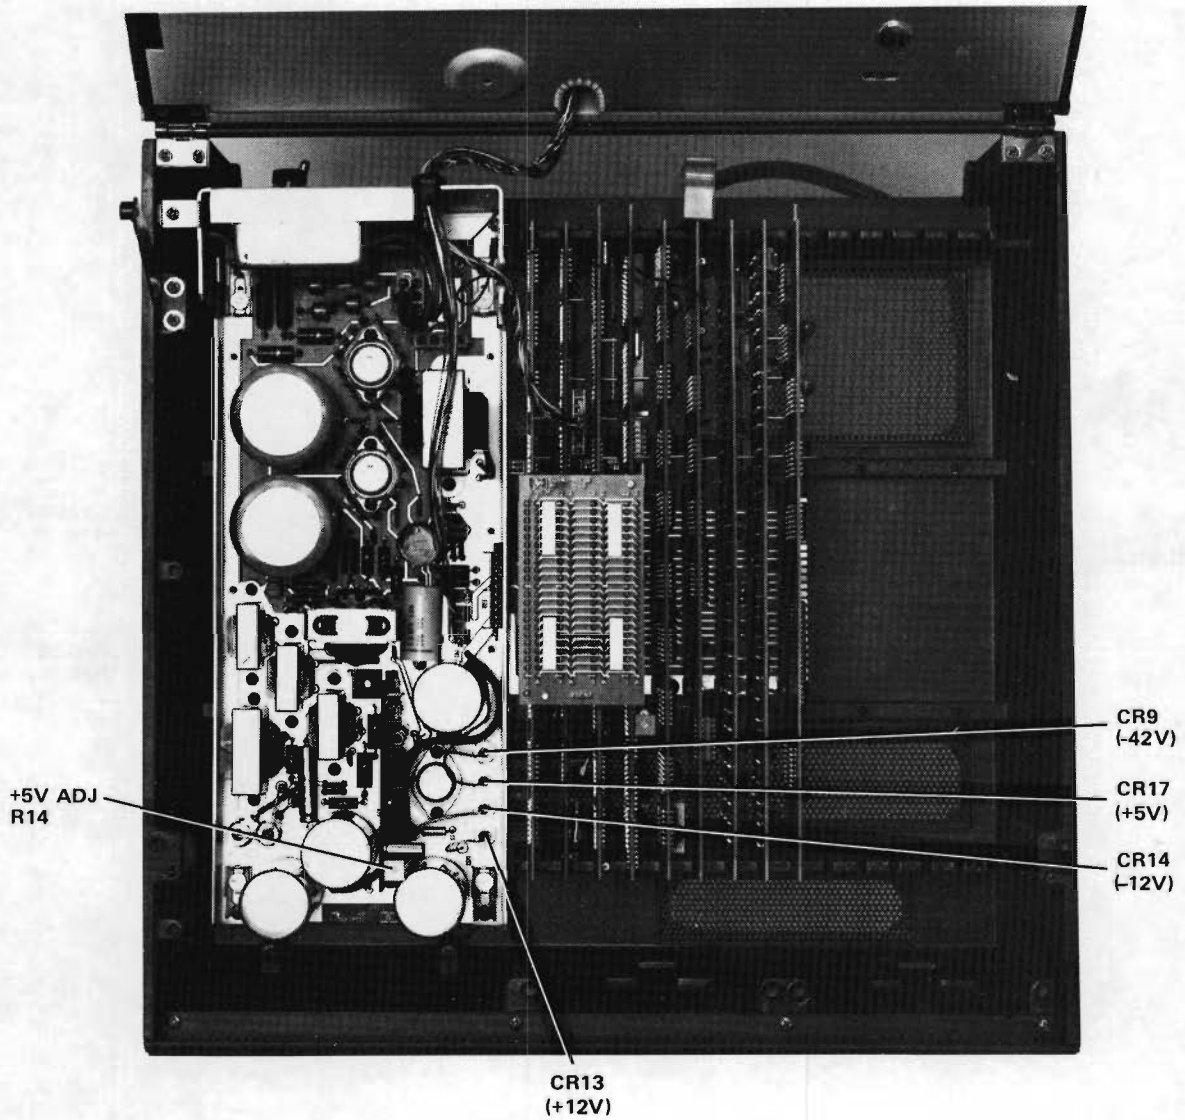

Figure 3-2. Power Supply Test Point and Adjustment Locations
- c. Connect multimeter between +5V diode CR17 (see figure 3-2) and chassis ground.
- f. Adjust +5V potentiometer R14 (see figure 3-2) for a multimeter indication between +4.85V and +5.25V.
- g. Using multimeter, check for -40V to -46V at diode CR9 (see figure 3-2), +11.4V to +12.6V at diode CR13, and -11.4V to -12.6V at diode CR14.